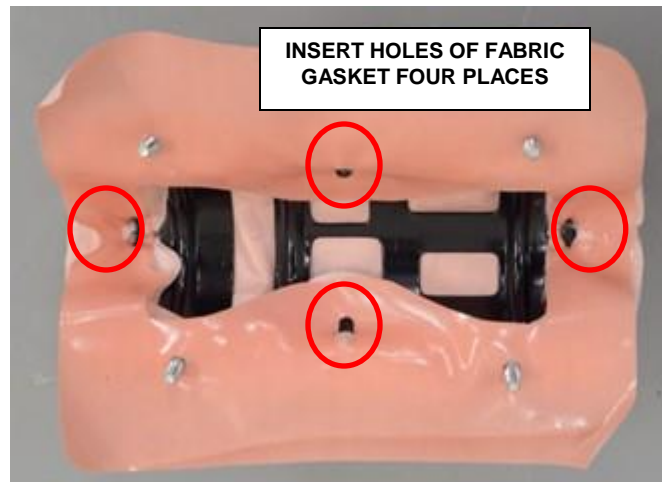

Figure 40 – Fabric Gasket
- i. With the help of a trim tool insert the holes of fabric gasket, four places (Figure 40).